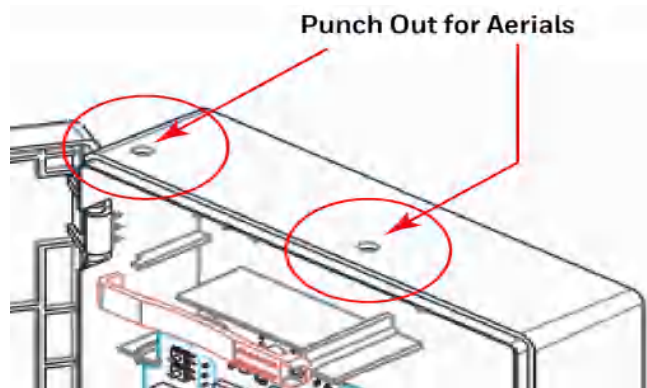

Figure 3.1: Knockouts on the Enclosure
3. (Optional) Punch out the appropriate knockouts on the enclosure for the aerials (see Figure 3.1).